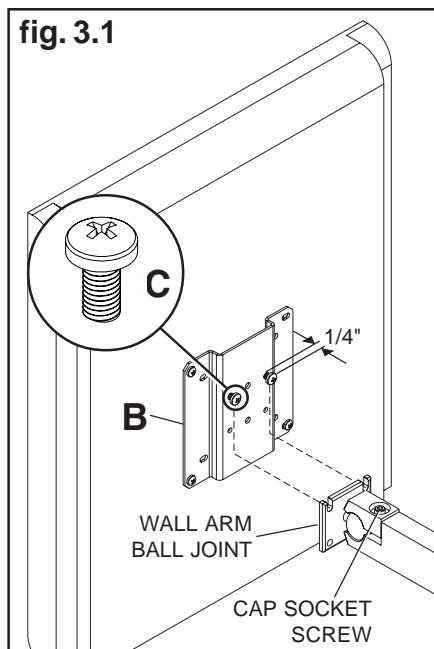

fig. 3.1
Insert two M5 x 10 mm screws (C) into top two holes of adapter plate (B) leaving approximately 1/4" of exposed thread. With slots facing upward, hook screws onto wall arm ball joint as shown in figure 3.1.